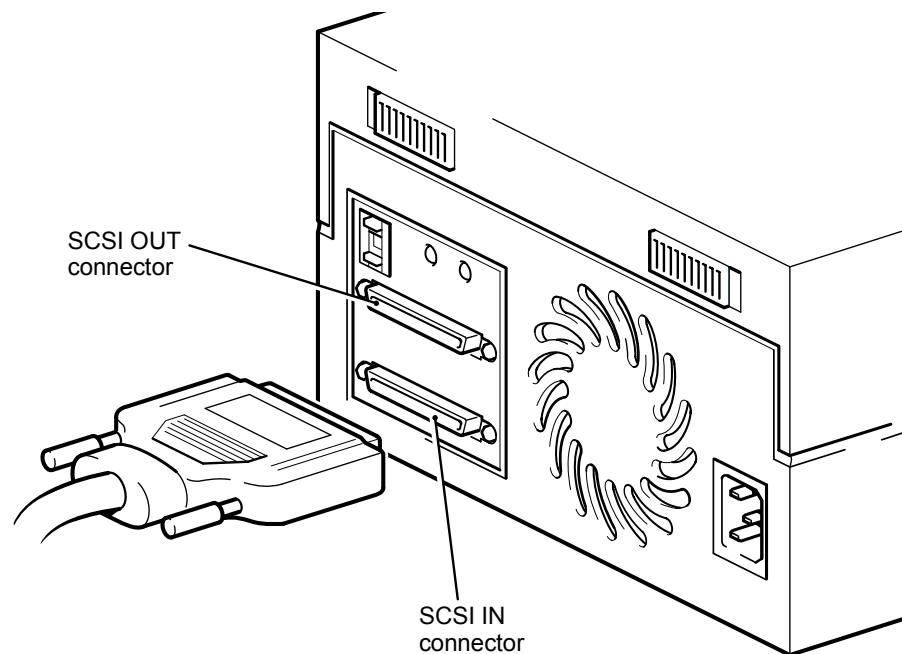

Figure 2-3 SCSI cable connection
4. Attach the other end of the SCSI cable to the SCSI-IN connector on the rear panel of the tape drive and secure it by tightening the screws (see Figure 2-3). Do not connect the cable to the SCSI-OUT connector.